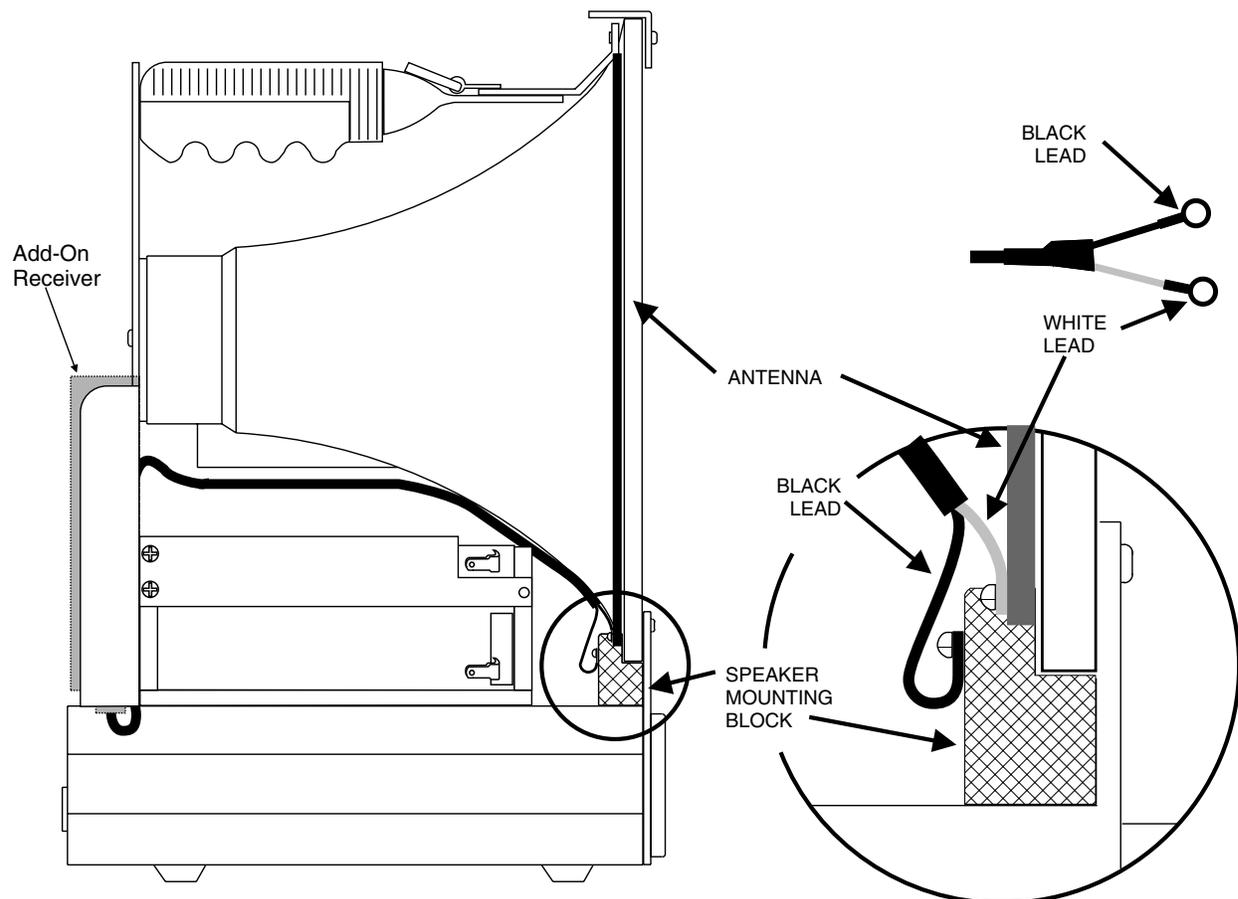

Figure 4 - Add-on Receiver Antenna Connections
The Add-On receiver is supplied with velcro attaching strips and is equipped with the necessary cabling for making the connections to the Long Ranger. The receiver is installed on the Long Ranger by performing the following steps as shown in Figure 4:
- 1) The antenna cable for the Add-On is packed together with screws, lock washers and the velcro strips. The antenna cable is terminated with two ring lugs. Feed the lug end of this cable through the hole in the Long Ranger rear panel upright. Dress the cable along the top of the battery pack along with the speaker wires as shown in Figure 4.